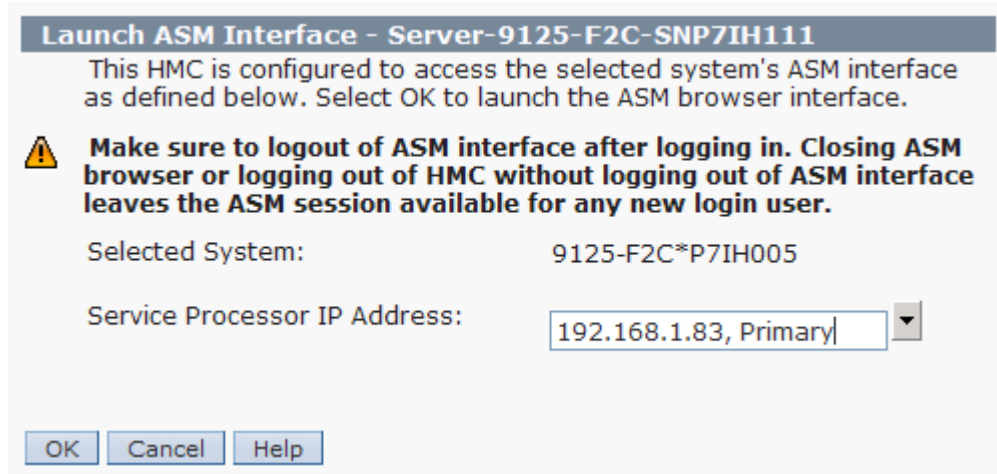

Figure 32 Select Service Processor IP Address
STEP 45 In the window that appears, *select* the **Primary Service Processor IP Address** then *click* the **OK** button. See Figure 32. Note: It may take a few minutes for the FSP to initialize.